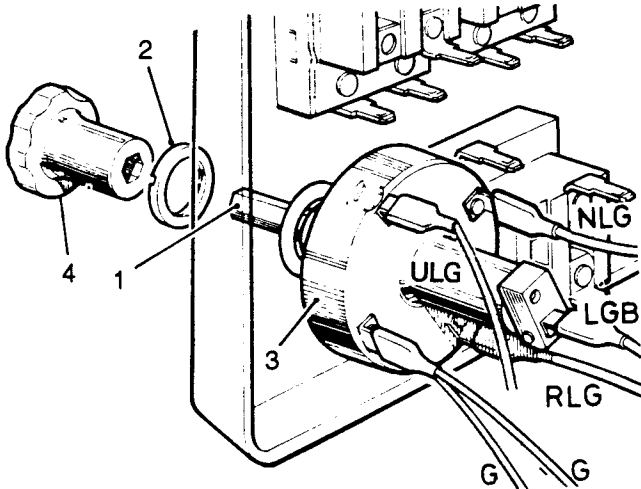

Fig O5.18
(2) Refer to Fig O5.18. Depress the plunger (use a matchstick or similar pointed instrument) and withdraw the switch knob (4).
(3) Unscrew the lock ring (2).
(4) Withdraw the instrument panel clear of the dash (see Sub-section O5, Chapter 27).
(5) Disconnect the leads from the back of the switch and withdraw the switch (3).